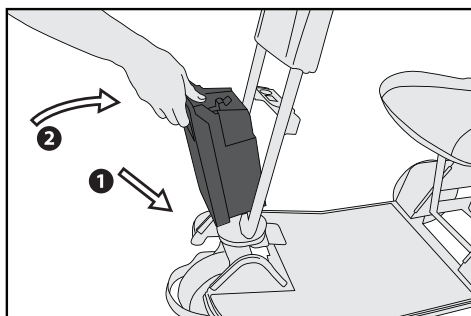

Figure 1
1. Place battery down into tiller (Figure 1).